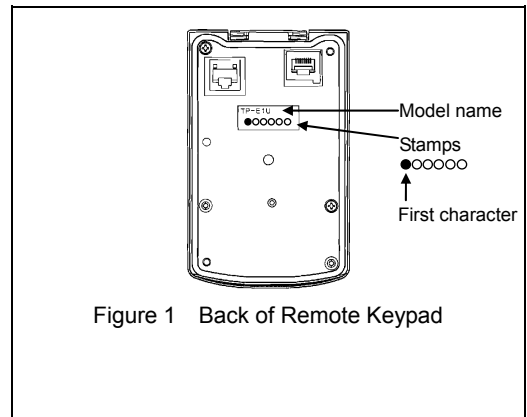

Figure 1 Back of Remote Keypad
- (1) The package contains a remote keypad and its installation manual (this book).
- (2) There have been no problems during transportation. In particular, no parts are damaged or have fallen out of place nor are there any dents on the body.
- (3) The model name "TP-E1U" is inscribed on the back of the remote keypad as shown in Figure 1.
- (4) In case of using this keypad for the FRENIC-Ace / VP / Lift series, check the stamps under the model name, as shown in Figure 1.